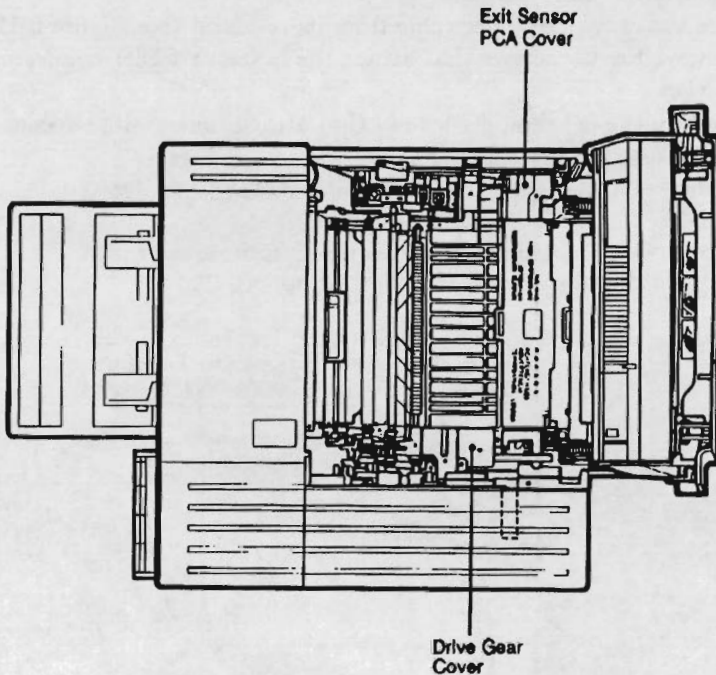

Figure 6-13. Miscellaneous Covers
Two protective covers, the Exit Sensor PCA Cover (1) and the Main Motor Drive Gears Cover (1), located inside the printers (see Figure 6-13) can be removed to facilitate access to other components. Note the position of each of these covers and replace them when servicing is complete.